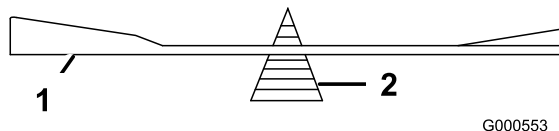

Figure 64
2. Check the balance of the blade by putting it on a blade balancer (Figure 64).